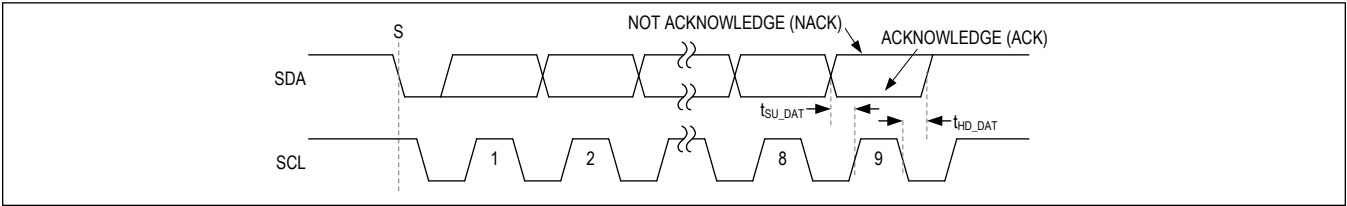

Figure 14. Acknowledge Bit
Both the I²C bus master and this device generate acknowledge bits when receiving data. The acknowledge bit is the last bit of each nine-bit data packet. To generate an acknowledge (A), the receiving device must pull SDA low before the rising edge of the acknowledge-related clock pulse (ninth pulse) and keep it low during the high period of the clock pulse. See Figure 14. To generate a not acknowledge (nA), the receiving device allows SDA to be pulled high before the rising edge of the acknowledge-related clock pulse and leaves it high during the high period of the clock pulse.